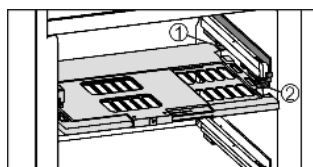

Fig. 12
- ▶ To insert the humidity control plate: Insert the cover mouldings of the plate into the rear holder *Fig. 12 (1)* from underneath and engage them in the holder *Fig. 12 (2)* at the front.